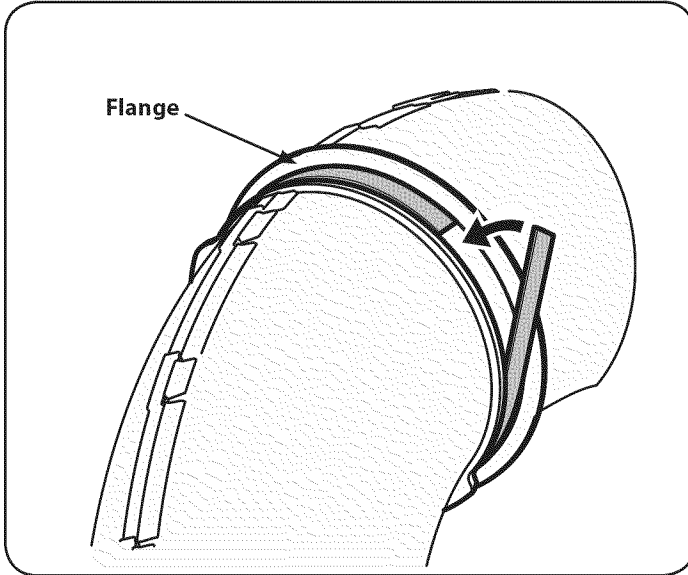

Figure 22
1. Peel the backing off of the self-adhesive foam strip (721-04388) that has been included within your Carton of Contents. Apply it to the upper chute, flush against the flange as shown in Figure 22.